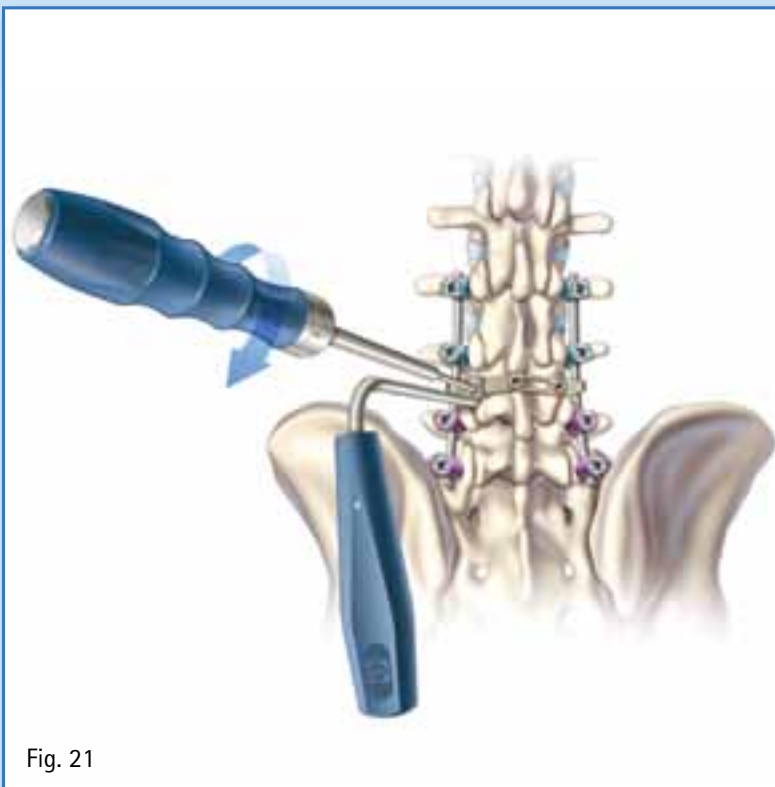

Fig. 21
- If the cross connector fits properly and is fully seated onto both rods, final tightening can be accomplished by applying 4 Nm (36 in/lbs) of torque to the locking screw using the cross connector torque wrench (FW207R) and the cross connector counter torque (FW204R). (Fig. 21)